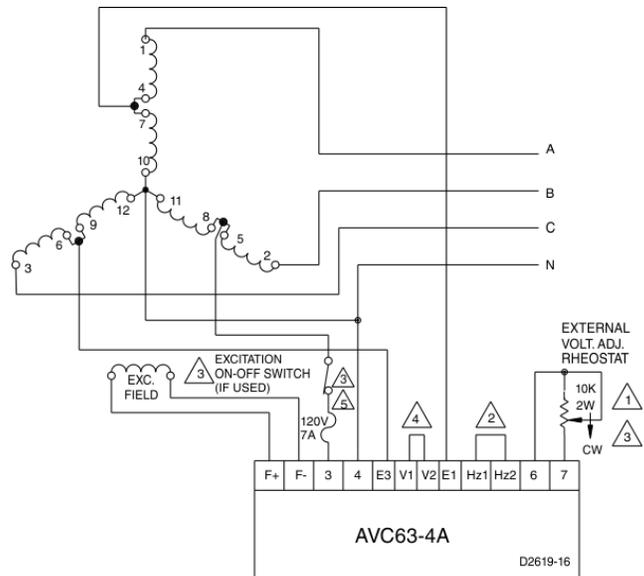
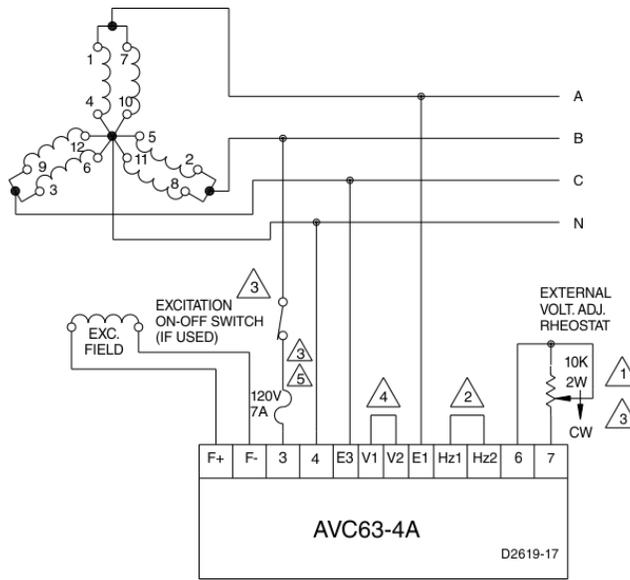
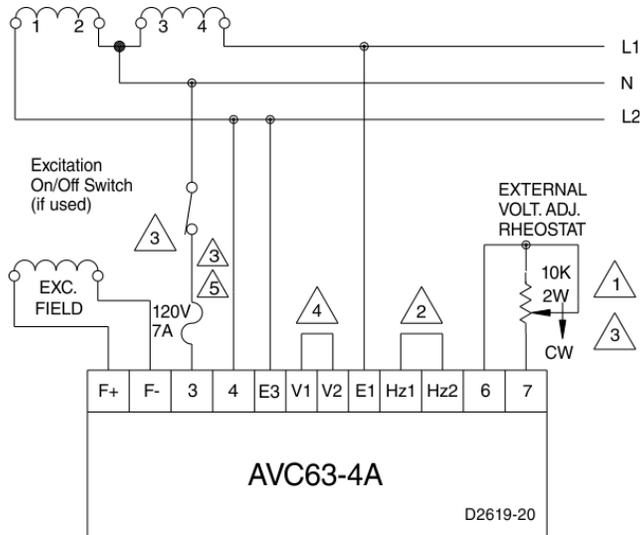
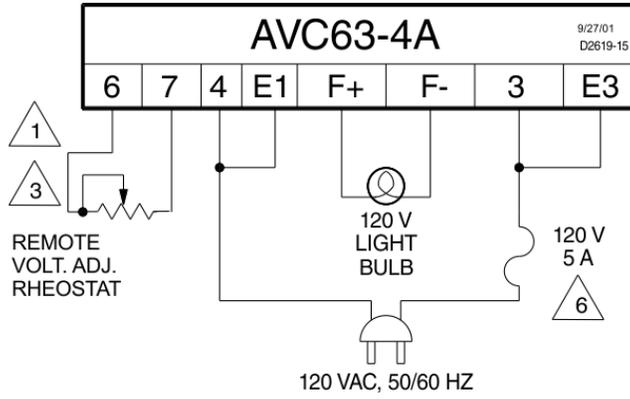

Figure 4. Interconnection Diagram, 277/480 Vac Nominal, Three-Phase, Four-Wire, Wye Connection
Figure 5. Interconnection Diagram, 120/208 Vac Nominal, Three-Phase, Four-Wire, Wye Connection
Figure 6. Interconnection Diagram, 120-240 Vac Nominal, Single-Phase, Three-Wire Connection
Figure 7. Interconnection Diagram, Operational Test
To protect your wiring from faults before the regulator, fuses with high interruption capability should be installed according to the interconnection diagrams (Figure 4, Figure 5, and Figure 6).
3. Ensure that the AVC63-4A is connected to the generator system correctly. Connections for typical AVC63-4A applications are shown in Figure 4, Figure 5, and Figure 6.
1. Connect the AVC63-4A as shown in Figure 7 but do not apply power yet. Ensure that the light bulb is rated for 120 Vac and less than 100 W.
The following notes apply to the interconnection diagrams (Figure 4, Figure 5, and Figure 6) and the operational test diagram (Figure 7).